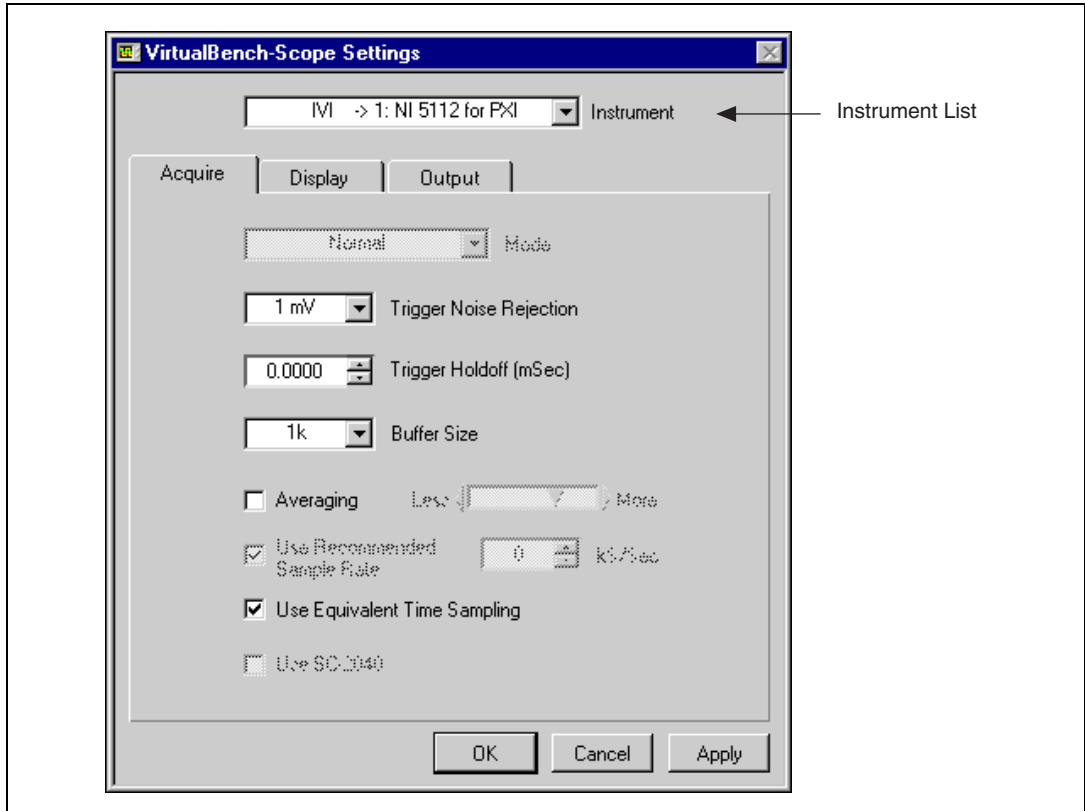

Figure 1-3. Acquire Tab of VirtualBench-Scope Settings Dialog Box
The following sections explain how to make connections to your NI 5112 and take simple measurements using the VirtualBench-Scope soft front panel, as shown in Figure 1-3 later in this chapter. To launch the soft front panel, select **Start»Programs»National Instruments SCOPE»VirtualBench-Scope**.
- b. **Select NI 5112 from the** instrument list as shown in Figure 1-3. If NI 5112 is not in the device list, make sure you have properly configured the device using Measurement & Automation Explorer (MAX). For more information on how to configure your NI 5112 in MAX, refer to the *Where to Start with Your Oscilloscope/Digitizer* documentation that shipped with your NI 5112.